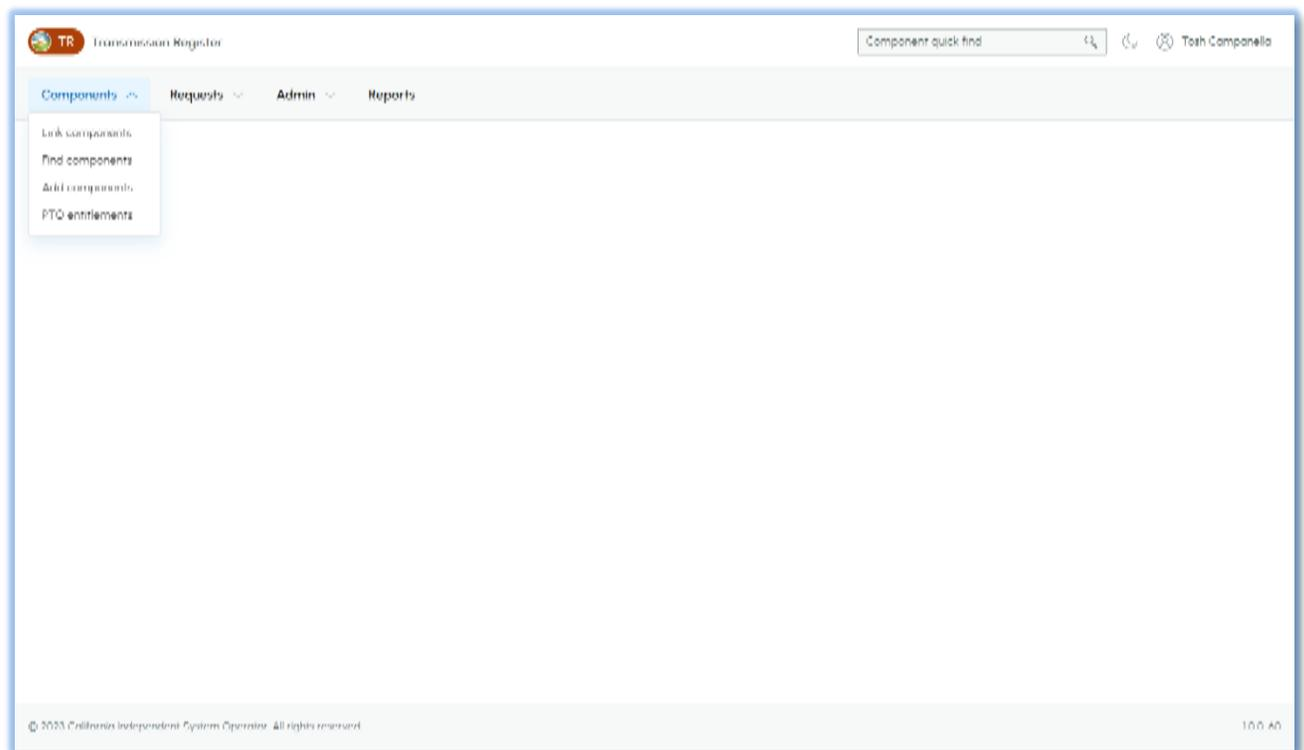

Figure 1 TR Homepage
Once TR is accessed, the application defaults to the screen shown in Figure 1. The following subsections provide details for navigating through each of the displayed hyperlinks.
- 1) Click on the Add New Components hyperlink shown in Figure 1, and the screen in Figure 2 loads.